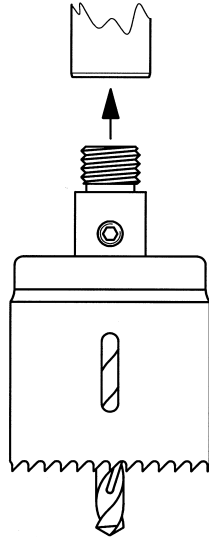

Figure 15
- Set up the arbor hole saws with the pilot drill in the chuckshaft. Screw the hole saw matching the threaded outlet of the branch connection into the arbor hole saw. See Figure 15.